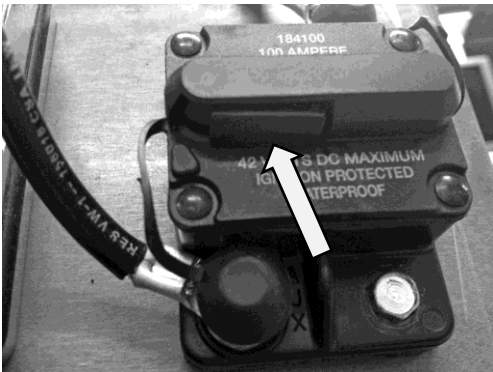

Figure 8. Circuit Breaker reset button.
3. Locate the reset button under the front of the circuit breaker. Push the button and it will audibly click if the circuit breaker had tripped (Figure 8).